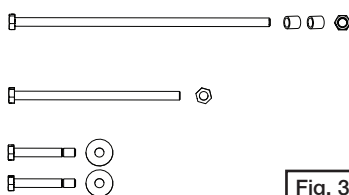

Fig. 3
- Inspect and remove all components from package. (Fig. 3) See carton for parts and hardware included with your unit.